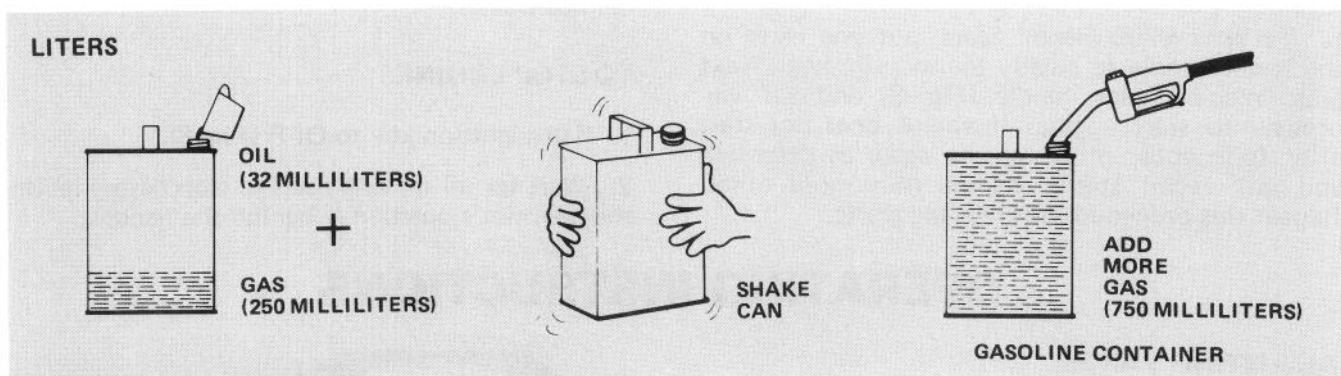

Figure 7C
1. Add 250 milliliters of leaded or unleaded REGULAR gasoline to a gasoline container (Fig. 7C).
2. Pour 32 milliliters of two cycle engine oil into the gasoline container (Fig. 7C). DO NOT use multi-viscosity oils.
3. Shake the gasoline container vigorously so oil mixes with gasoline (Fig. 7C). Remember to install cap on gasoline container before shaking.
4. Add an additional 750 milliliters of gasoline to the gasoline container (Fig. 7C).